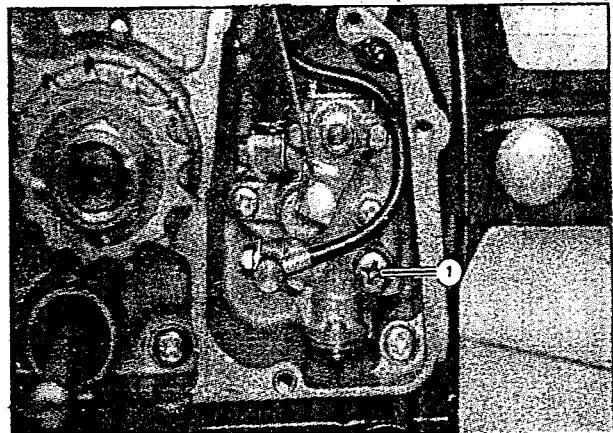

Fig 4.7
To bleed the air, hold the machine in standstill condition. Loosen the screw (1) (fig 4.7) to let out the air after making sure that all the trapped air has been bled, tighten the screw firmly.